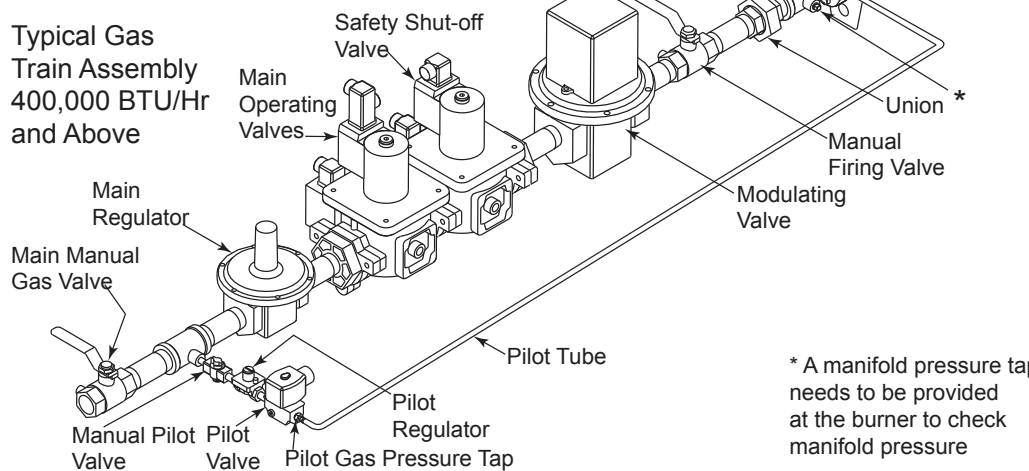

Figure 5a - Gas Train Assemblies
3. For intermittent, or interrupted ignition systems. See Figure 5a for typical piping.